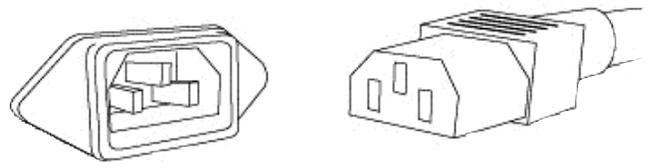

Figure 1 - Align socket pins to corresponding holes and push together firmly.
- J - Detachable Power Cord Socket - Plug the Detachable Power Cord into this socket (see Figure 1). The SFL-1 is factory set for the correct operating voltage for the area in which it is sold (see shipping box for voltage setting). If a different operating voltage is required, please contact an authorized Sonic Frontiers dealer, distributor or the factory directly.
- M-Left and Right RCA Single-Ended Tape Output - This output connects to the single-ended RCA input of a tape deck; left channel to left channel and right channel to right channel. These outputs are not operational when the Direct/Normal Switch (B) is in the DIRECT mode, or when the Tape/Source Switch (C) is in the TAPE mode.
- O -Left and Right RCA Single-Ended Direct Input - This input accepts a single-ended RCA input connection from a preferred line level source to achieve the highest possible sonic performance, bypassing unnecessary control functions; left channel to left channel and right channel to right channel. This input is selected by placing the Direct/Normal Switch (B) in the DIRECT position.
- P- Left and Right RCA Single-Ended Auxiliary 2 Input - This input accepts a single-ended RCA input connection from any line level signal source; left channel to left channel and right channel to right channel. It is selected via the Source Selector Switch (A).
- Q-Left and Right RCA Single-Ended Auxiliary 1 Input - This input accepts a single-ended RCA input connection from any line level signal source; left channel to left channel and right channel to right channel. It is selected via the Source Selector Switch (A).
- R-Left and Right RCA Single-Ended Tuner Input - This input accepts a single-ended RCA connection from a tuner source; left channel to left channel and right channel to right channel. It is selected via the Source Selector Switch (A).
- S -Left and Right RCA Single-Ended CD Input - This input accepts a single-ended RCA connection from a Compact Disc Player or Digital-to-Analogue Converter; left channel to left channel and right channel to right channel. It is selected via the Source Selector Switch (A).
Connect the Detachable Power Cord to the SFL-1 chassis (see Figure 1) and plug your SFL-1 into the AC power source.